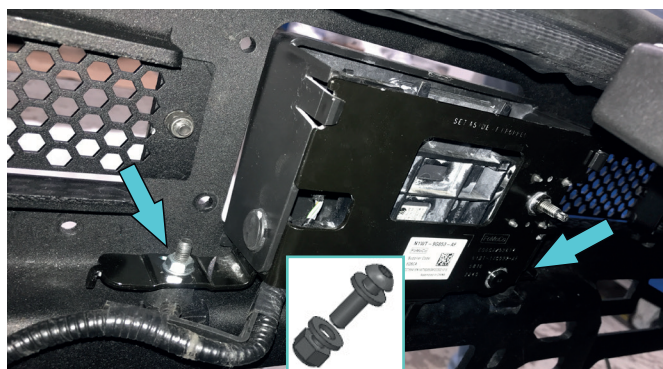

Fig.56
55. If your vehicle has radar, then install radar on bumper body using spacers (item M1). Fix radar using screws M6x40, nuts M6, washers 6 (item B, O, H) (fig.56).